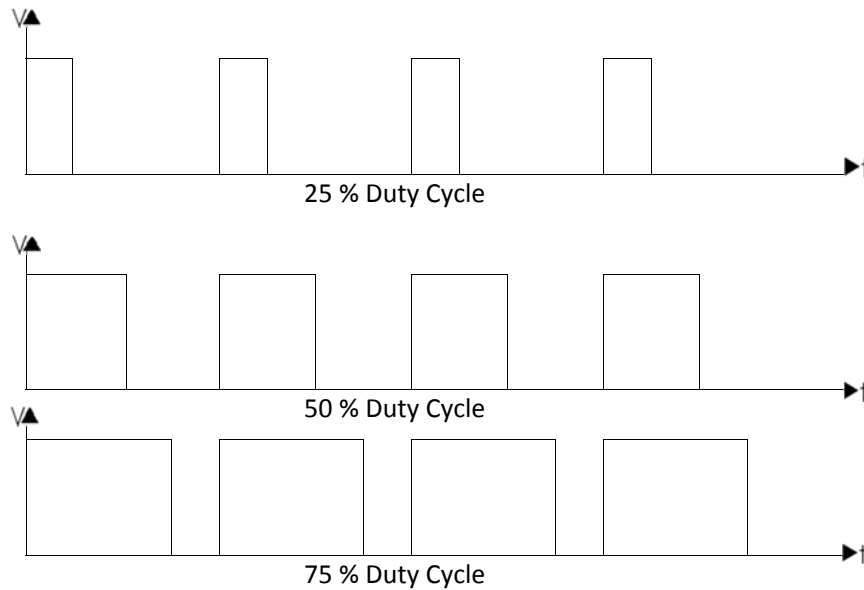

Figure 1 – Duty Cycles
1. A PWM signal is not constant. Rather, the signal is on for part of its period, and off for the rest. The **duty cycle**,  $D$ , refers to the percentage of the period for which the signal is on. The duty cycle can be anywhere from 0, the signal is always off, to 1, where the signal is constantly on. A 50%  $D$  results in a perfect square wave. (Figure 1)